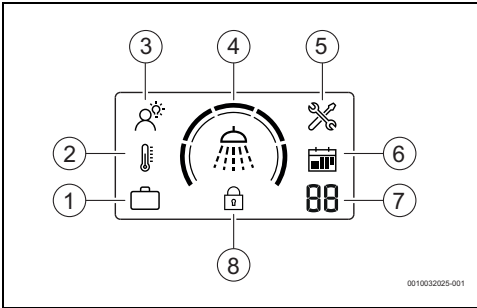

Fig. 5 Display controller assembly
- ▶ Press the key until SMART mode appears on the display (→ Fig. 5 [3]).
- ▶ Press the key until Manual mode appears on the display (→ Fig. 5 [2]).
- ▶ Press the  key until Vacation mode appears on the display (→ Fig. 5 [1]).
- ▶ Press the key  to set the desired number of vacation days (→ Fig. 5 [7]).